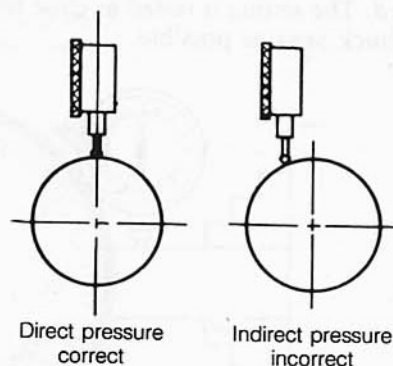

Figure 107 Pressure on the contact point
- Make sure that the pressure placed on the contact point is as direct as possible (see Fig. 107). If the contact point is not square to the test surface an incorrect reading will be obtained.